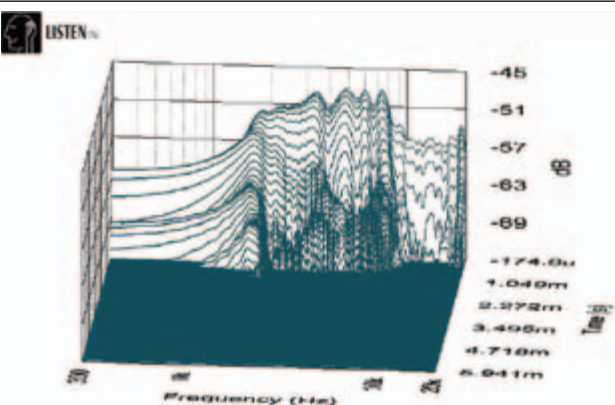
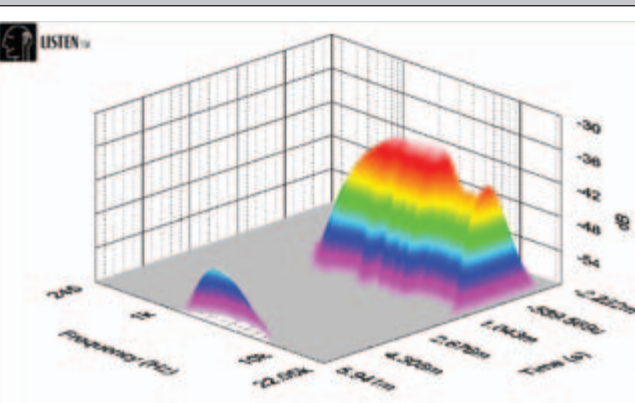

Figure 8: Faital Pro FD371 SoundCheck CSD waterfall plot
Figure 9: Faital Pro FD371 SoundCheck STFT surface intensity plot
2.83-V/1-m impulse response and imported the data into Listen's SoundMap time/frequency software. The resulting CSD waterfall plot is shown in **Figure 8**. The short-time Fourier transform (STFT) plot is shown in **Figure 9**.